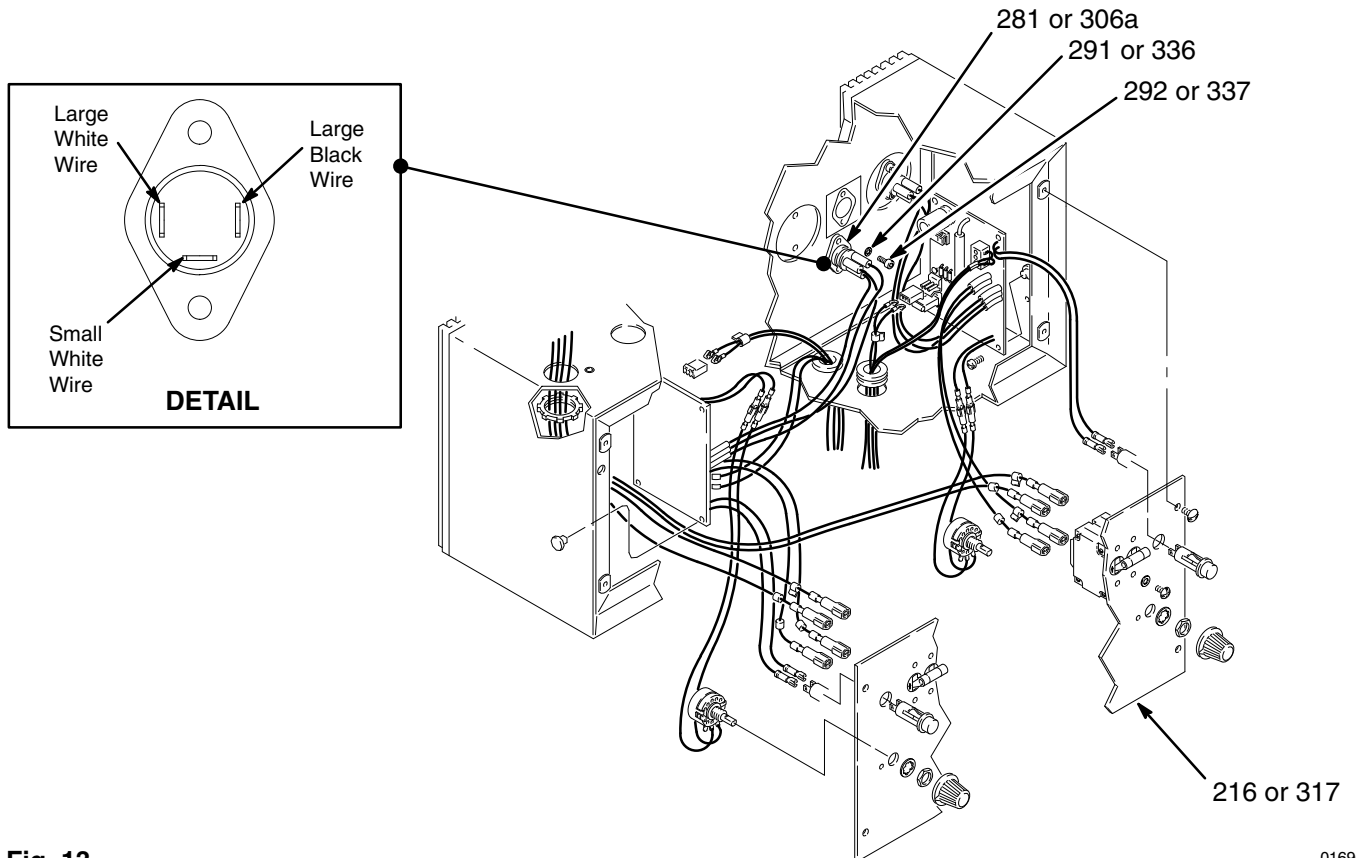

Fig. 13
2. Remove the heater control panel (216). See Fig. 13, page 25.
3. To check continuity at the thermostat, remove the front heater element shroud (238). Check for continuity across the terminals at each switch, with one lead disconnected and after pushing the reset button. See Fig. 13, page 25.
2. Remove the heated hose control panel (317). See Fig. 13, page 25.
2. Grasp the connector of each triac lead and unplug them from the triac (281). See Fig. 13, page 25.
4. Apply conductive paste (order Graco P/N 110-009) to the bottom flange of the new triac. Position the triac as shown in Fig. 13.
5. Reconnect the leads firmly to the triac. See the DETAIL in Fig. 13.